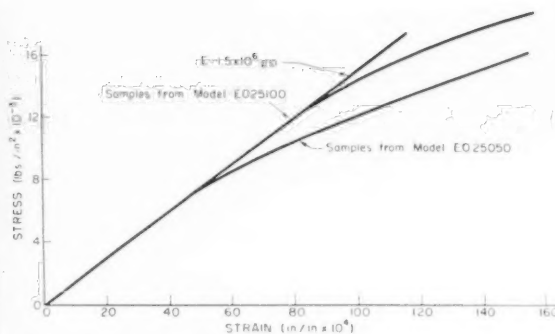

Fig. 4 Average stress-strain curves in tension parallel to the warp for epoxy resin-glass cloth laminate
used in the models. Moduli of elasticity and maximum strength in tension and bending were determined from samples cut from the flange laminate of each frame. The test samples were prepared and tested according to ASTM designations (2). The results of these tests are shown in Table 3. A typical tension stress-strain curve is shown in Fig. 4.